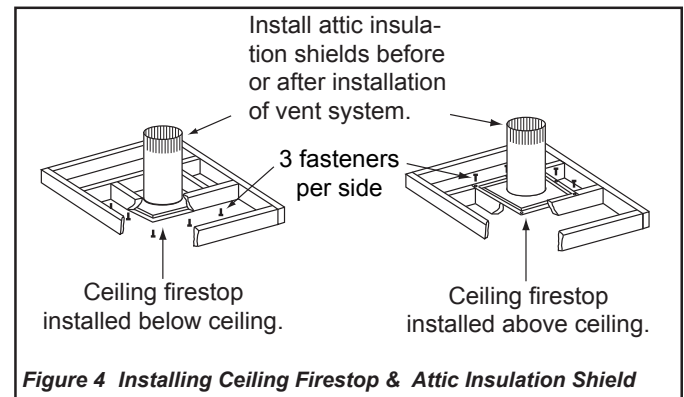

Figure 4 Installing Ceiling Firestop & Attic Insulation Shield
- The ceiling firestop may be installed above or below the ceiling. Refer to Figure 4.